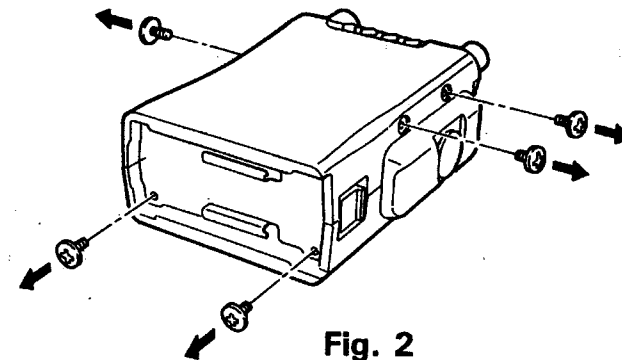

Fig. 2
2. Detach the battery case and remove the two screws on the front panel which are used to hold the terminal plate on the bottom of the unit. (Fig.2)
3. Remove the three screws that hold the front panel. (Fig.2)